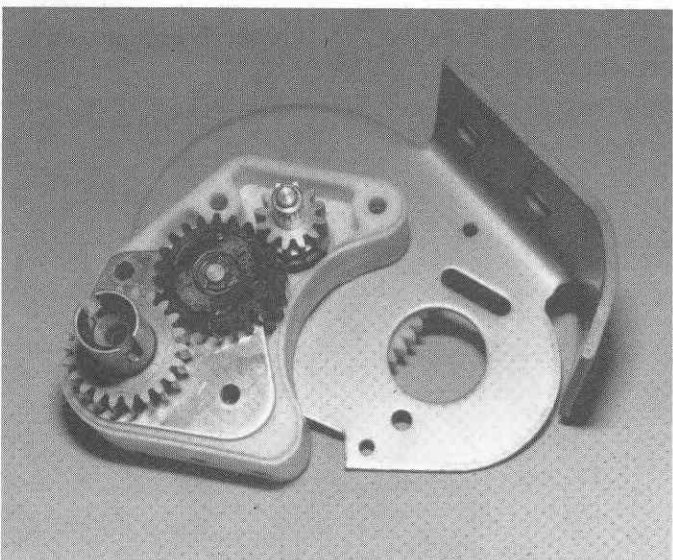

Fig. 85
□ **Fig. 85** Set the idler gear assembly into the housing, as shown.